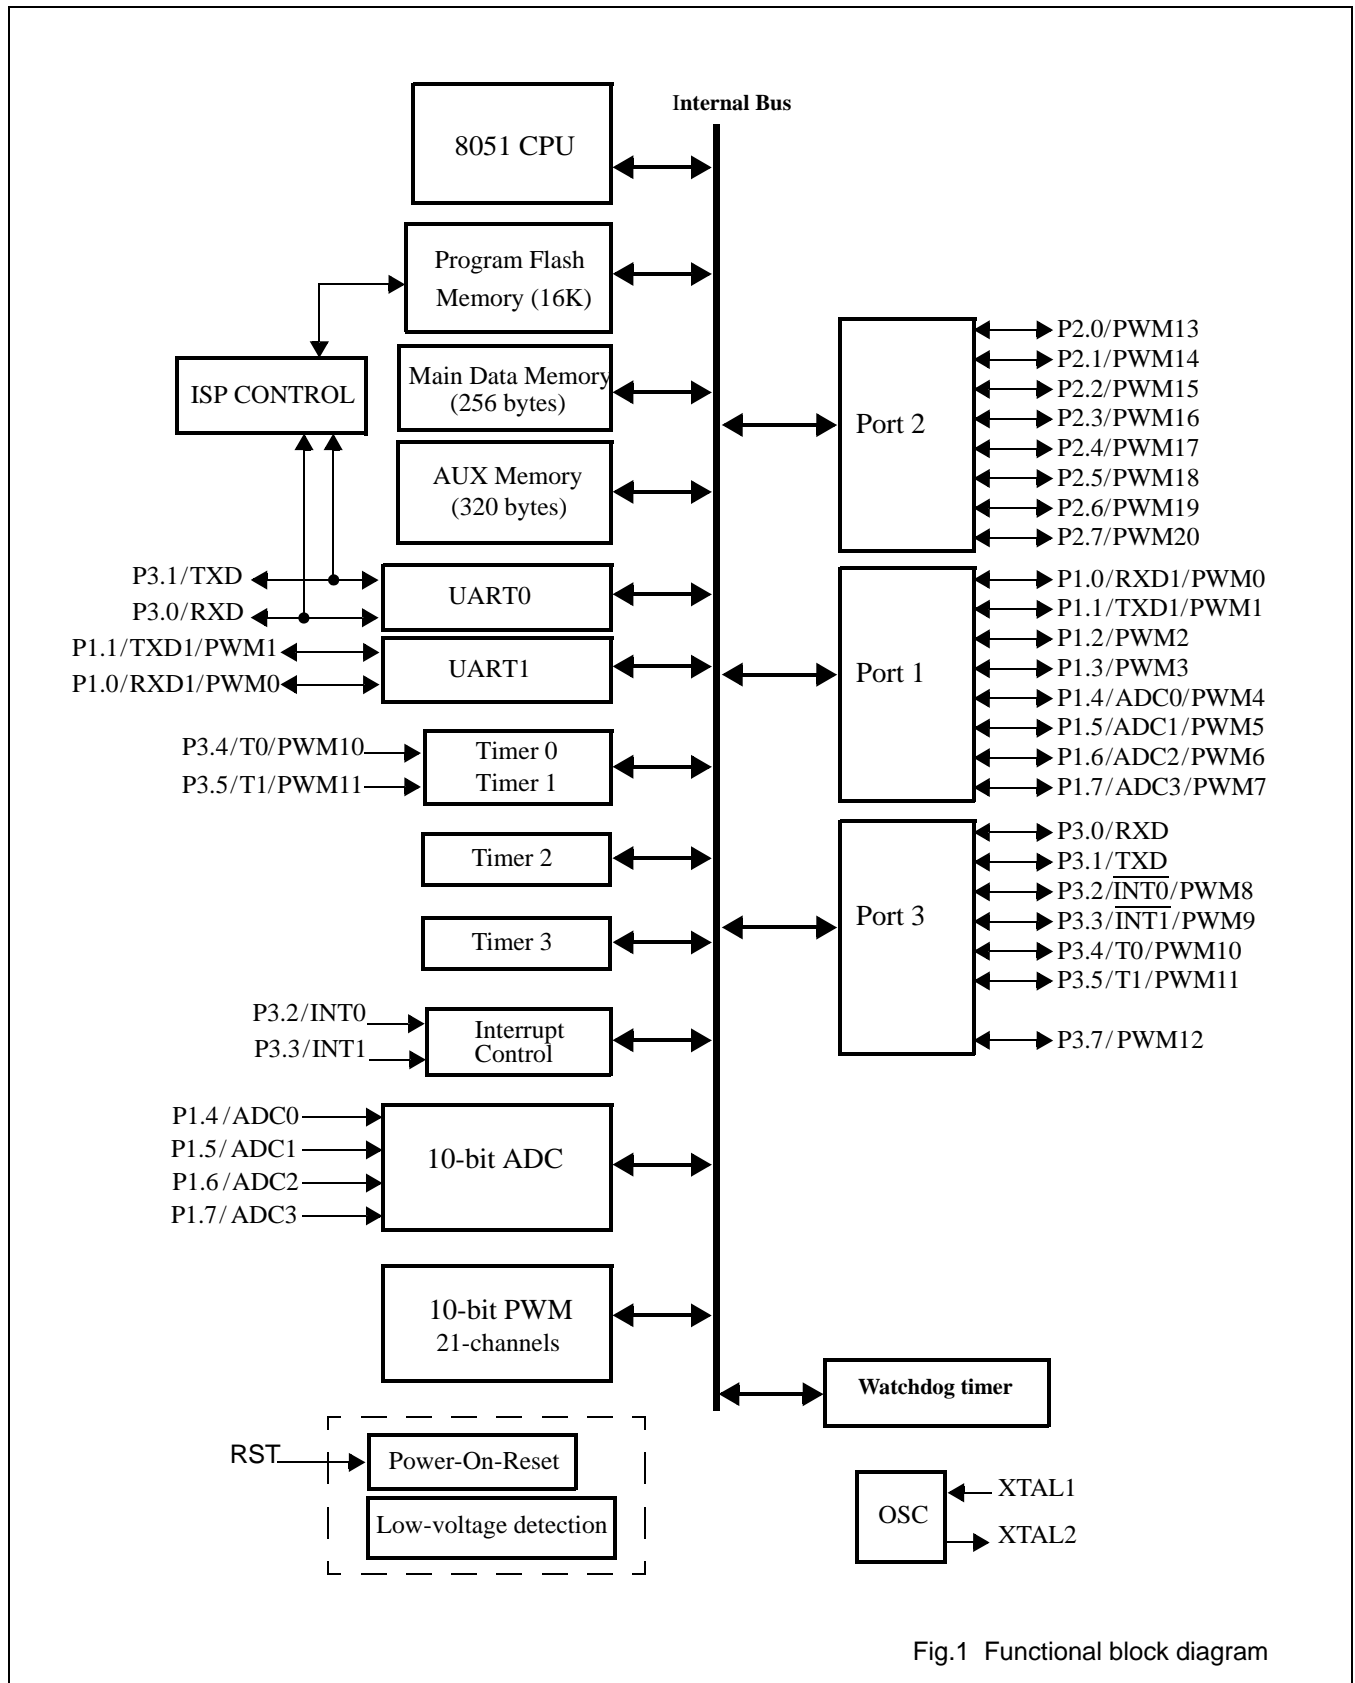

Fig.1 Functional block diagram
- Fig. 1** Functional block diagram.....Page 11